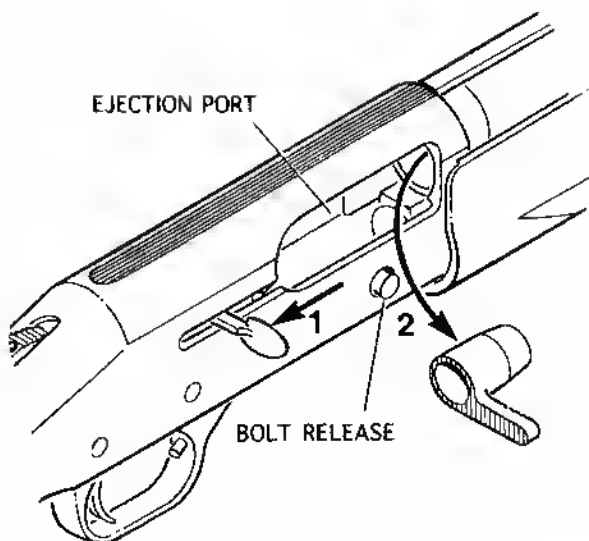

Figure 4
1. With the safety button fully rearward in the "ON" position and the shotgun pointed in a safe direction, hold the shotgun in your left hand by the forearm, and grasp the operating handle with your right hand (Figure 4).
Keep fingers clear of operating handle and ejection port when closing action. (Figure 4)
With safety button fully rearward in the "ON" (SAFE) position, and the shotgun pointed in a safe direction, press bolt release until action releases (Figure 4).
Open the action by pulling the operating handle completely rearward until it locks in the open position. (See "TO LOCK ACTION OPEN", Figure 4)
Keep fingers clear of operating handle and ejection port when closing action (Figure 4).
3. With safety button fully rearward in the "ON" (SAFE) position, and the muzzle pointed in a safe direction, press bolt release until action releases (Figure 4).
3. While holding the elevator down with your thumb, press the bolt release (Figure 4). This will release one shell from the magazine tube under spring pressure.